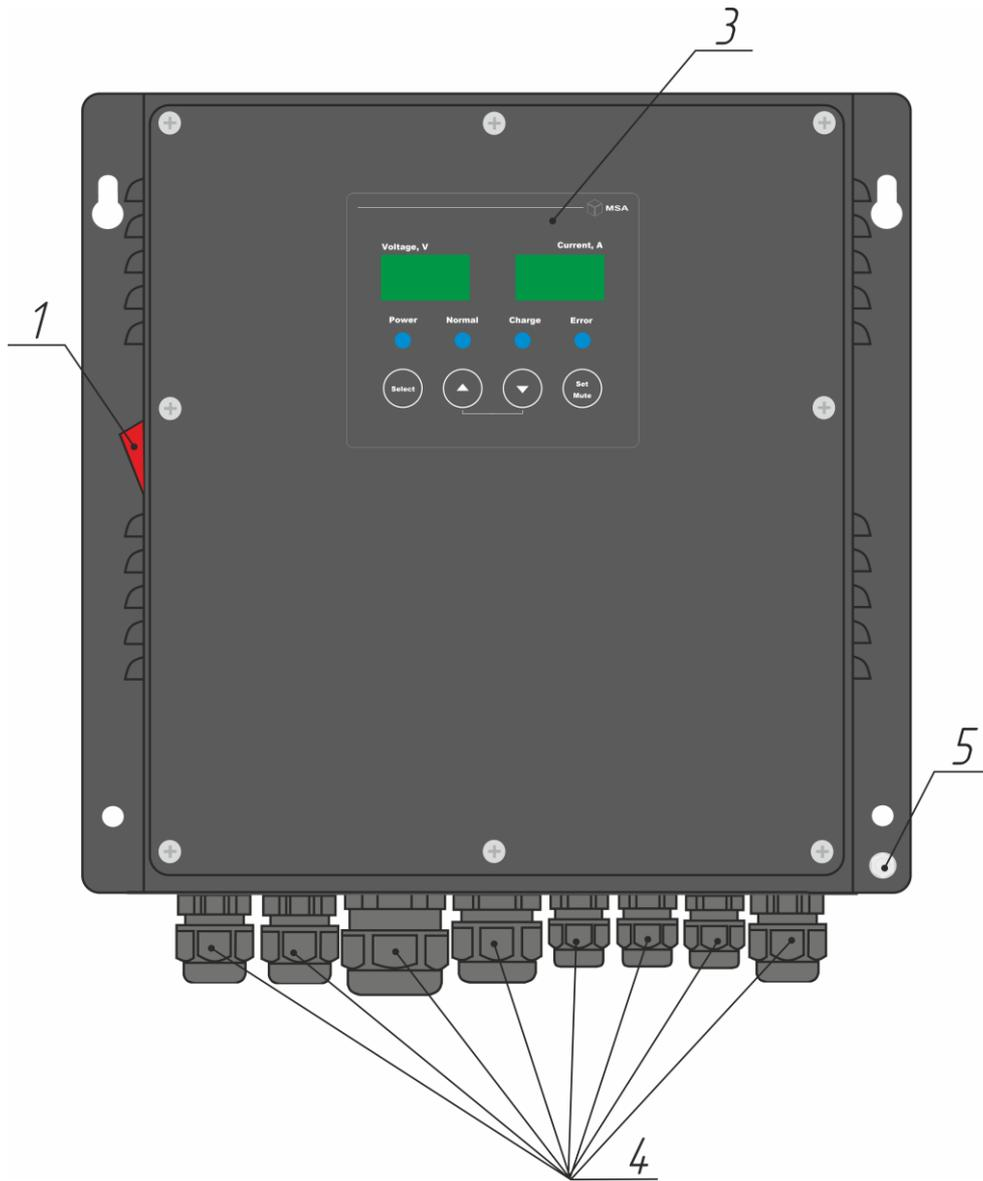

Figure 1 – Functional elements, controls and indication of the PCH with an integrated control
c) charge current and voltage of SB can be set up using a keyboard located on the Product's casing, see Figure 1;
The Product's appearance is represented in Figure 1.
Note – See the numbers in Figures 1 – 2.